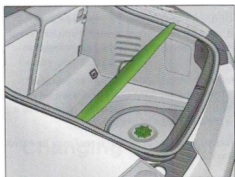

Fig. 136
- Lift the floor panel by the strap (Fig. 136).